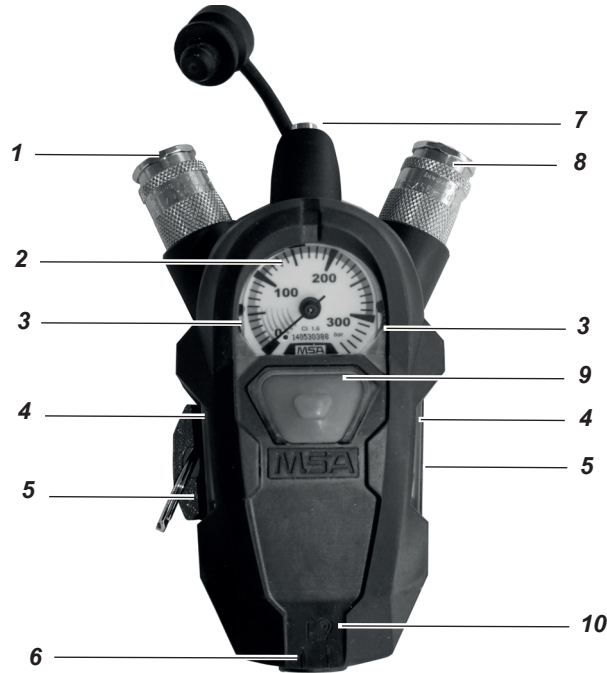

Fig. 1 Overview SingleLine SCOUT
The SingleLine SCOUT (see Fig. 1) is connected at the end of the SingleLine of an applicable MSA SCBA. It consists of the pressure gauge (2), the coupling for the lung governed demand valve (8) as well as an acoustic warning device (7) (signal whistle). It triggers a continuous warning signal when the cylinder pressure drops below  $55 \pm 5$  bar. The second connection (1) connects a second lung governed demand valve (e.g. rescue kit or RespiHood).